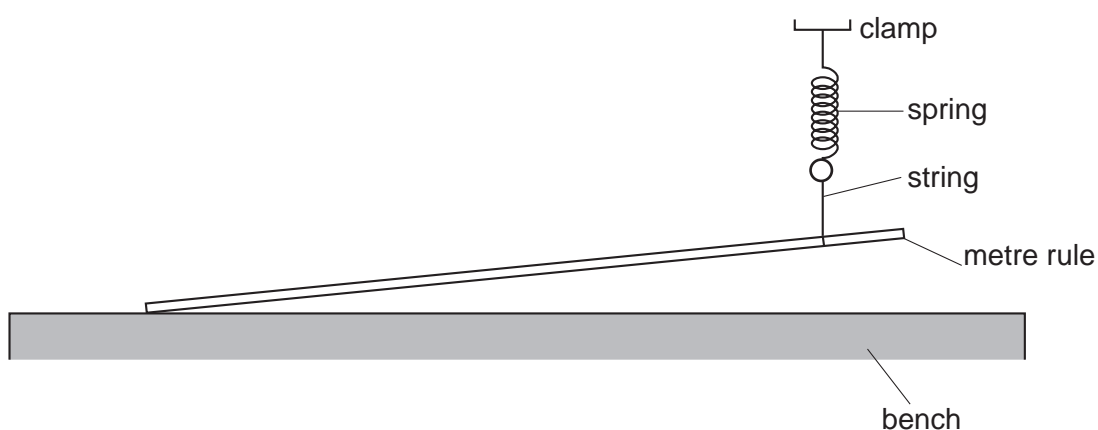

Fig. 3.1
1. The apparatus is to be set up as shown in Fig. 3.1. One end of the spring should be attached to the clamp. The other end of the spring is to be attached with string to the metre rule at the 90.0 cm mark. The string can be taped to the rule so that it does not slip.